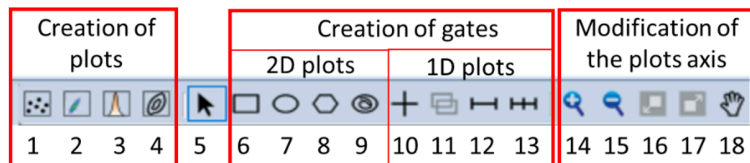

Figure 12: Screenshot of the toolbar in NovoExpress.
- 5 By clicking on the icons in the toolbar (Fig. 12), you can create the corresponding plot and gate.
Description of the icons for the creation of plots, gates and adjustment of the plots (Fig. 12):